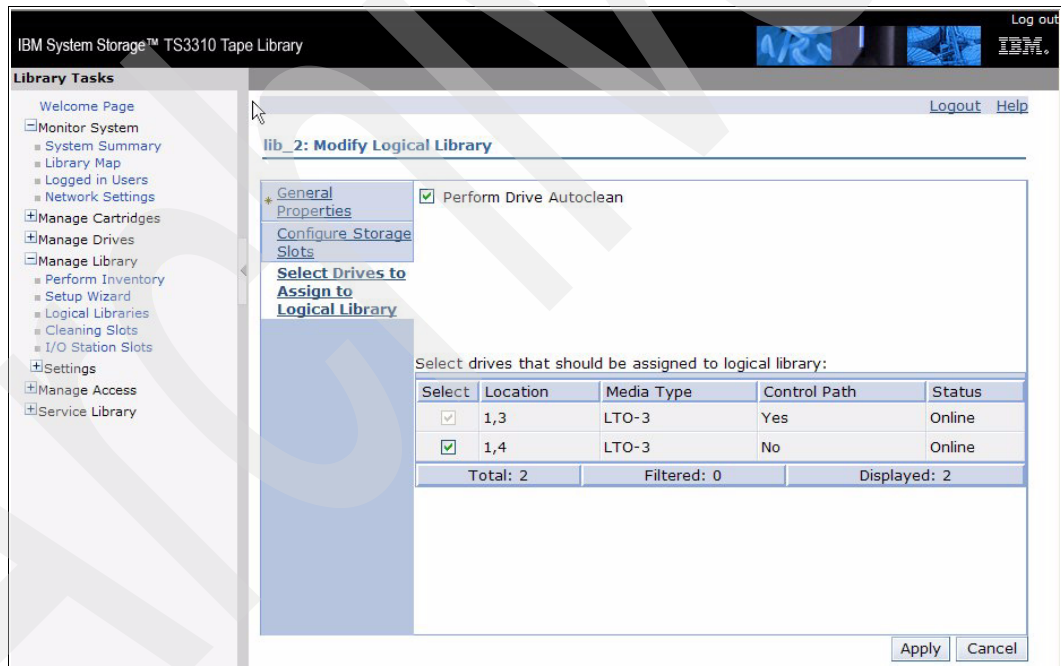

Figure 2-13 Modify a logical library
3. From the drop-down menu, select **create** to add new logical libraries, or **modify** to change a defined library. Modify gives you several choices; see Figure 2-13. You can modify general properties, change storage slots, and assign tapes. Click **Apply** to activate.